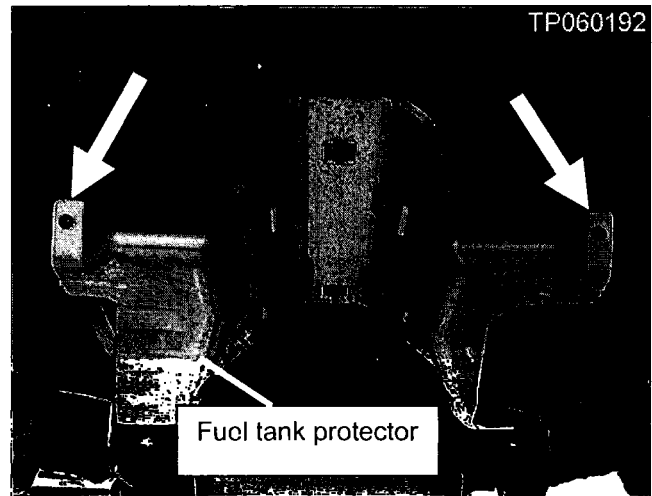

Figure 29
22. Remove the nuts shown in Figure 29.